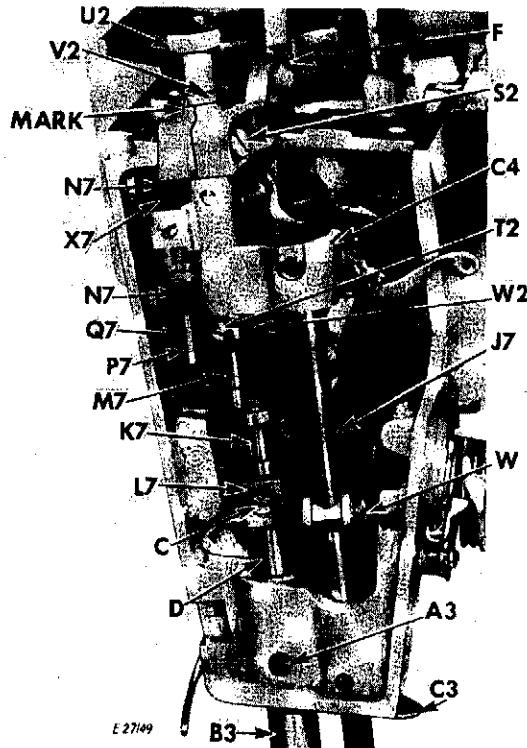

Fig. 319. Needle Bar Assembly
(See Fig. 319)
1. Insert needle bar down through bushings, as shown in Fig. 319.
4. Replace pressure regulating thumb screw **U2**, Fig. 319.
6. Align presser foot with slots for feed dog in throat plate, as instructed on page 128, and securely tighten set screw **C**, Fig. 319.
4. Mark edge of eccentric hinge pin **V2** as shown in Figs. 319 and 320 so that its position in relation to casting may be readily regained.